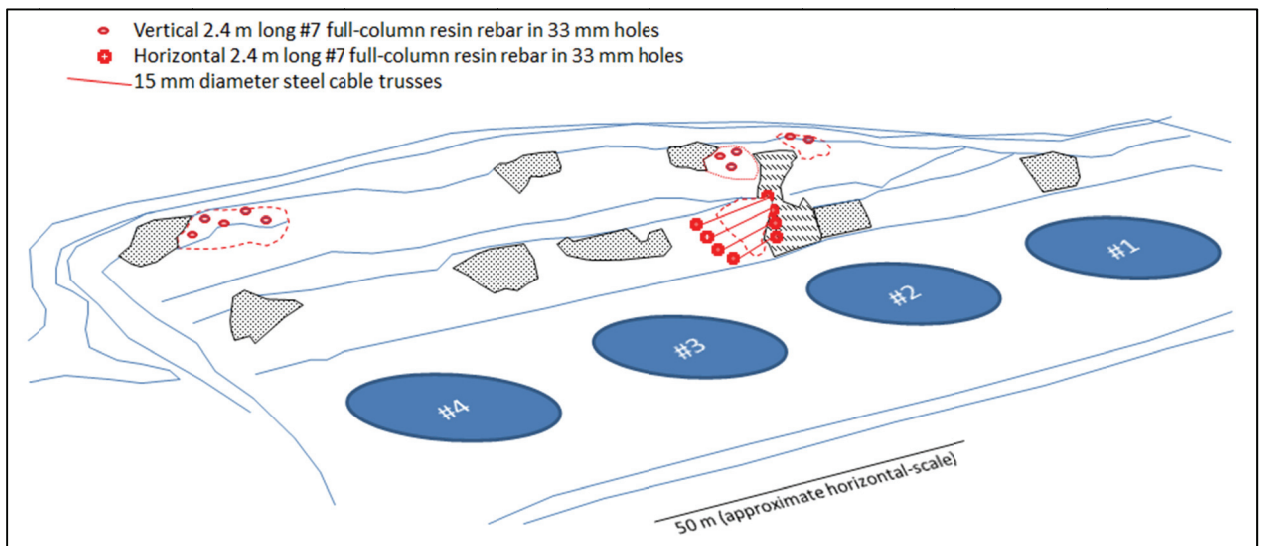

Figure 4: Option-A, primary support recommendations for unstable blocks in RBTF slopes.
- Option-A (as illustrated in Figure 4) suggests rock-bolting of the upper bench crest blocks at a spacing to be determined on-site and cable trusses across the lower-bench block.